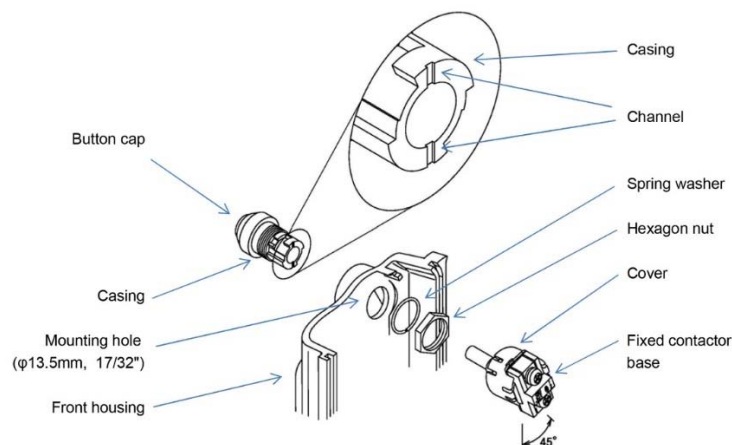

Figure 2: Installation Diagram
- Rotate the fixed contactor base clockwise to 45° (see Figure 2).